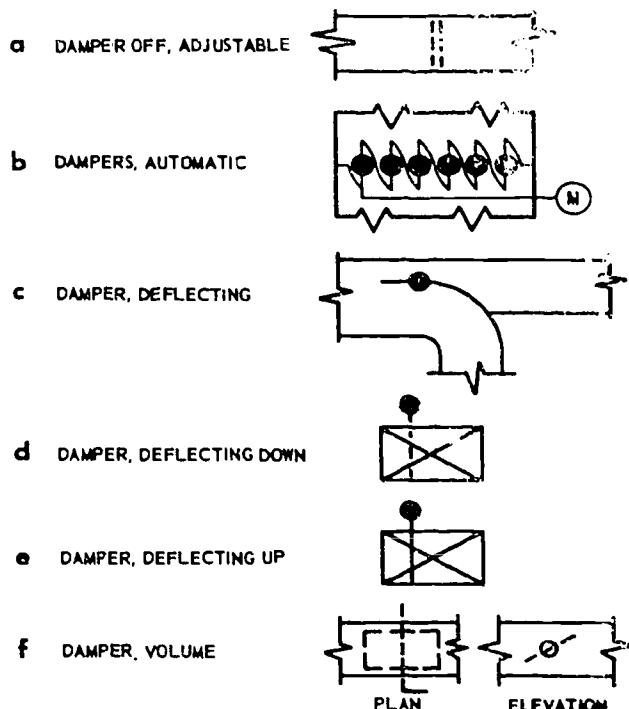

Figure 1-15. Symbols used for dampers.
**Damper Symbols.** Dampers are deflecting or shutoff devices installed inside ducts to regulate the flow of air. Many dampers are operated manually and have handles that are accessible from outside the duct; however, some are motor-operated for remote control and others operate automatically. Figure 1-15 shows six kinds of symbols that are used on working drawings for various dampers.
**Damper off, adjustable.** The symbol used for a damper off, adjustable (blankoff or shutoff) is shown in figure 1-15,a. This device may be of the butterfly type, similar to f of figure 1-15, or it may be a sliding gate.
**Dampers, automatic.** This symbol is used for multiple blade dampers which are operated automatically. The symbol shown in figure 1-15,b, is for a motor-operated damper; when the damper is not motor-operated, the symbol will not have the letter M. An example of a nonmotor-operated damper is a fire damper installed in a duct system; in case of fire, a fusible link will melt, and the spring-loaded damper blades will close off the airflow through the duct.
**Damper, deflecting.** The deflecting damper symbols shown in c, d, and e of figure 1-15 represent similar dampers used to deflect airflow. The purpose of these dampers is to balance the airflow at a takeoff or branch in a duct.
**Damper, volume.** This symbol, shown in the two views in f of figure 1-15, is frequently used in drawings to show the location of volume dampers in air ducts such as those used in heating or cooling systems. Notice the similarity of the plan and elevation views.